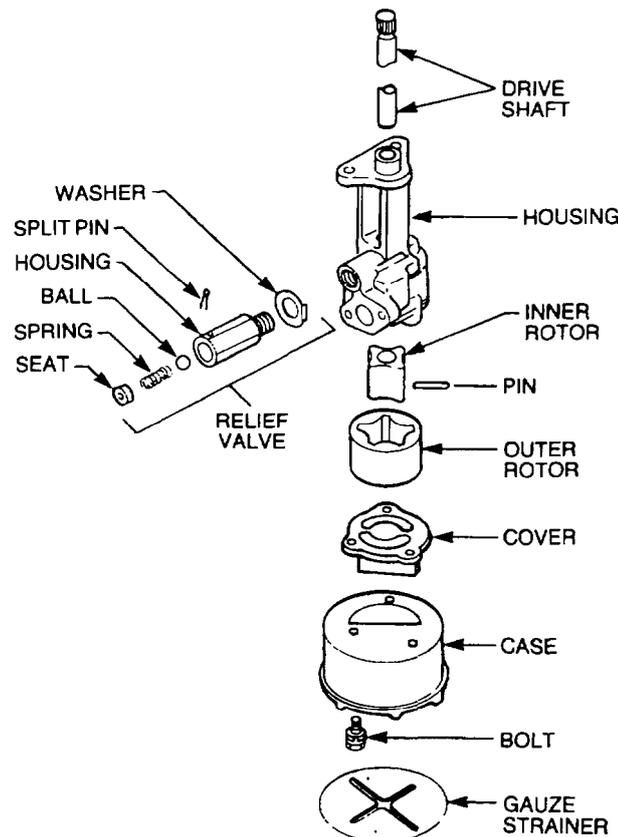

Figure 29 Oil Pump - Exploded View
- b. Remove the gauze strainer from the case (Figure 29).